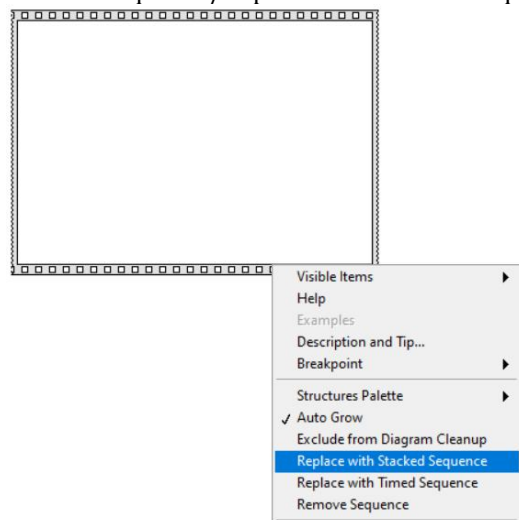

Fig. 2 “Stacked Sequence”
2. Clic en el perímetro inferior del Flat Sequence/Replace with Stacked Sequence. (Fig. 2)